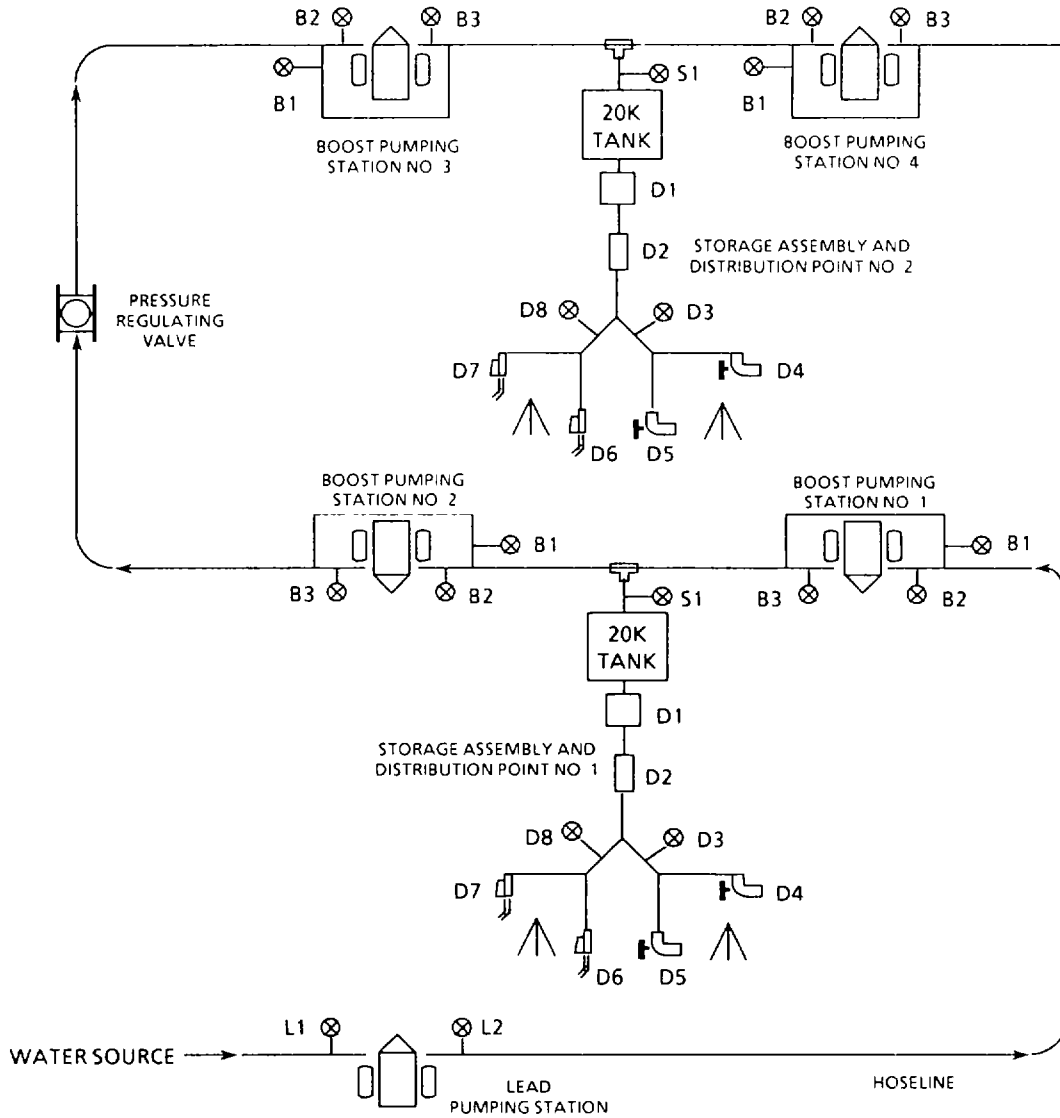

Figure 2-30. Water System Control Valves.
- b. Fill Hoseline (Packing). Refer to figure 2-30. Before system startup, the hoseline must be filled with water to ensure priming of 600 gpm pumps and prevent damage to hoses from high winds. Filling (packing) of the hoseline is required when starting the system for the first time and after replacing or repairing a segment of the hoseline.
c. Startup Refer to figure 2-30. Operation of the TWDS requires a minimum of seven operators. One operator is required for each pump station and one for each storage and distribution point. Operators must be in communication at all times.
- (1) If pressure regulating valve is installed, set three bypass control valve handles to open position (para 2-6).
d Shutdown. Refer to figure 2-30/